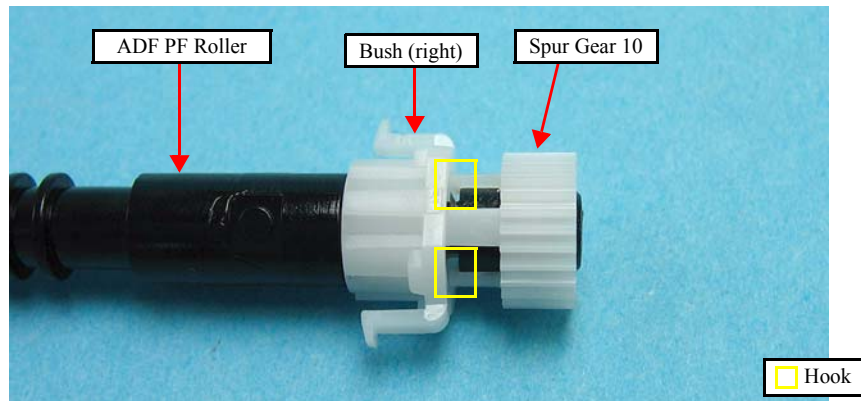

Figure 4-127. Removing the ADF PF Roller (3)
4. Attach the Spur Gear 10 to the ADF PF Roller, and secure the hooks of the Spur Gear 10 to the groove of the ADF PF Roller. (See Figure. 4-127.)